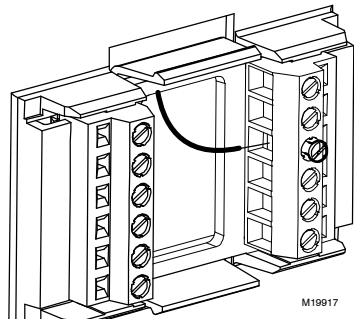

Figure 5. Insert Wires into Terminal Block
3. Insert the wires into the terminal block and tighten each screw terminal (see figure 5).